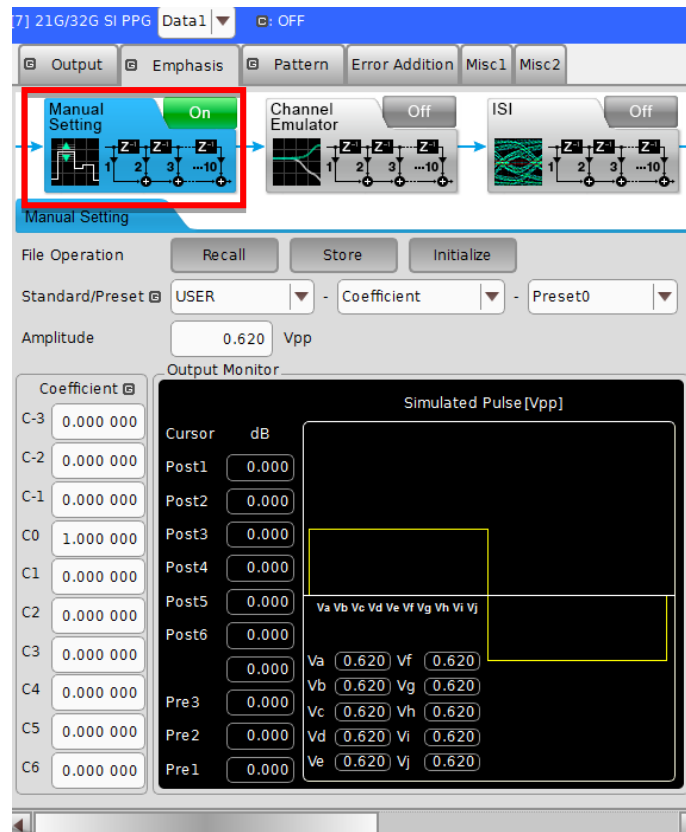

FIGURE 64. PPG EMPHASIS SETTING
- xi. Go to PPG → Emphasis tab and turn on “Manual Setting”. See Figure 64.